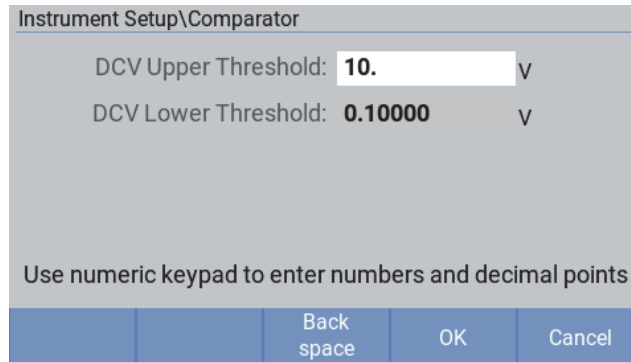

Figure 26. Setting the comparator thresholds
3. Use the up/down arrow (⬆ ⬇) buttons on the front panel to select **ON**, then press **F4** (OK); to switch the comparator off, use the up/down arrow (⬆ ⬇) buttons on the front panel to select **OFF**, then press **F4** (OK).
5. Use the up/down arrow (⬆ ⬇) buttons on the front panel to select **DCV Upper Threshold** option, then use the numeric keypad to enter a voltage value, in V, in the **DCV Upper Threshold** editbox, which can include a decimal point. As shown in the Figure 26.